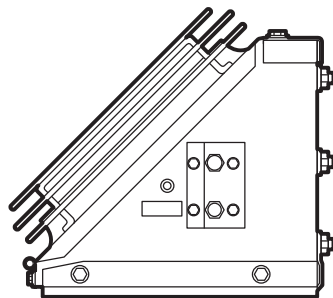
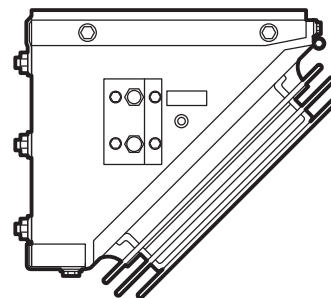

FIGURE 1
FIGURE 2
- 1) Determine if the condenser will be mounted upright (Figure 1) or inverted (Figure 2), and which side to exit the hose connections.